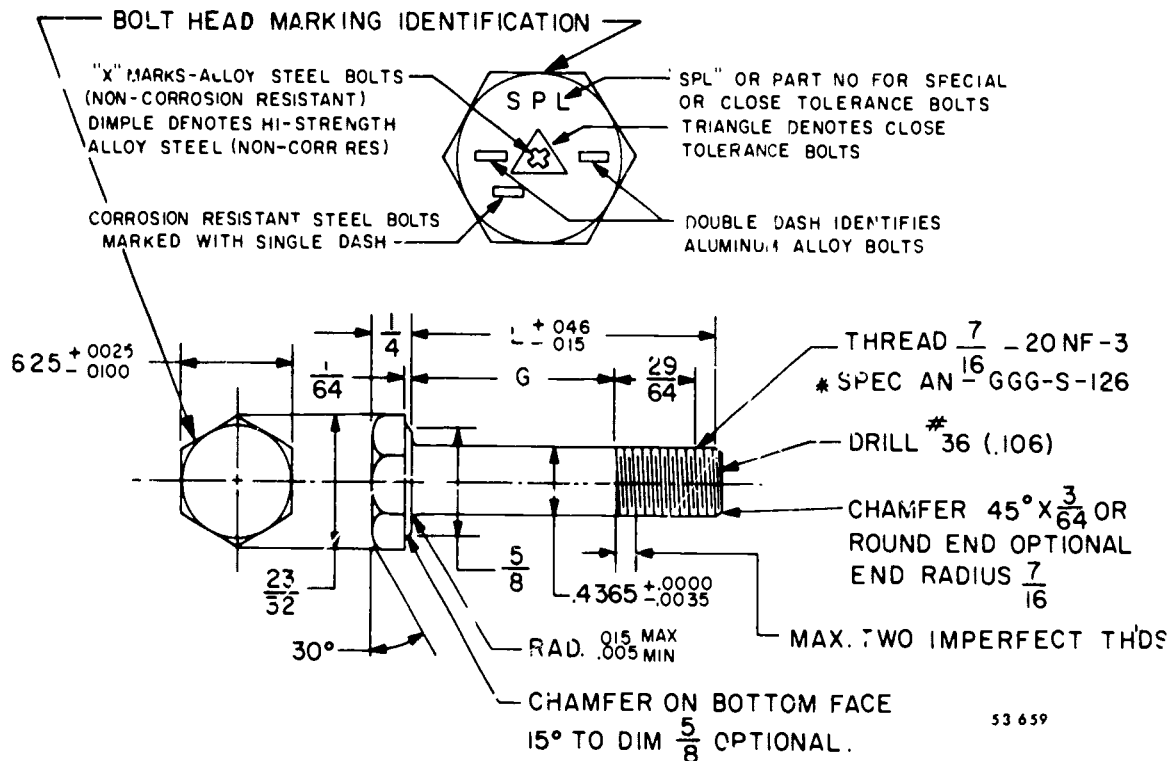

Figure 1-1 Bolt marking.
*a.* Aircraft bolts, which are specifically designed to be used on aircraft. Markings on these bolt heads indicate the type of material that each bolt is made of and whether or not it is a special or a close tolerance bolt. Figure 1-1 shows the markings on the head of an aircraft bolt and typical dimensions and tolerances.